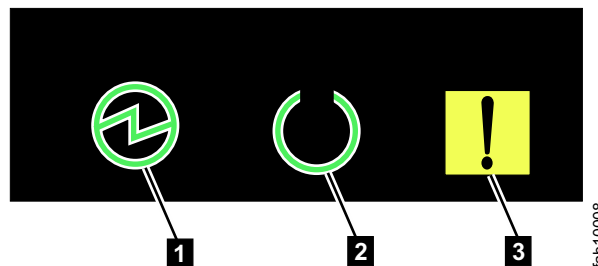

Figure 58. Node canister LEDs
2. Check the LEDs on each node canister in the control enclosure (see Figure 58).